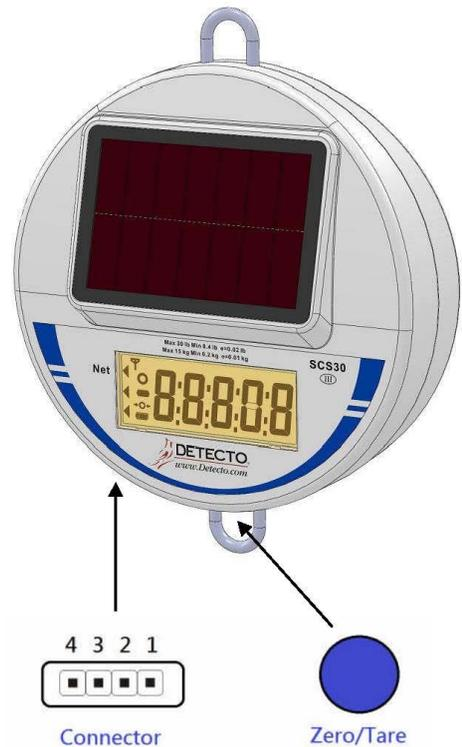

Figure No. 4
2. Referring to Figure No. 4, short Test Pins 3-4 to enter calibration mode. The display will show the internal count (zero count) when in the calibration mode. (Please note “kg” or “lb” unit for selecting the calibration weight).